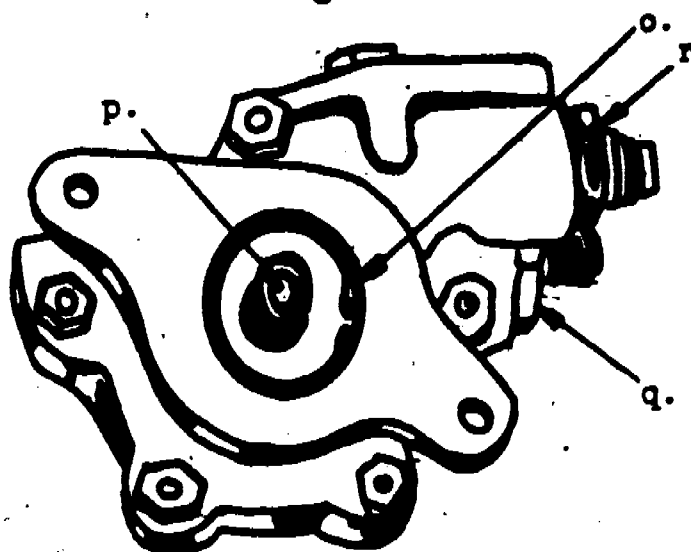

Figure 7
STEP 18. Remove the bearing retaining ring (Item o in Figure 7) using internal snap ring pliers.
STEP 19. Remove shaft (Item p in Figure 7) and bearing from body.
STEP 22. Remove spring retainer cap fitting (Item q in Figure 7). Discard the "O" ring seal.
STEP 26. Remove the return hose adapter (Item r in Figure 7) from the body.